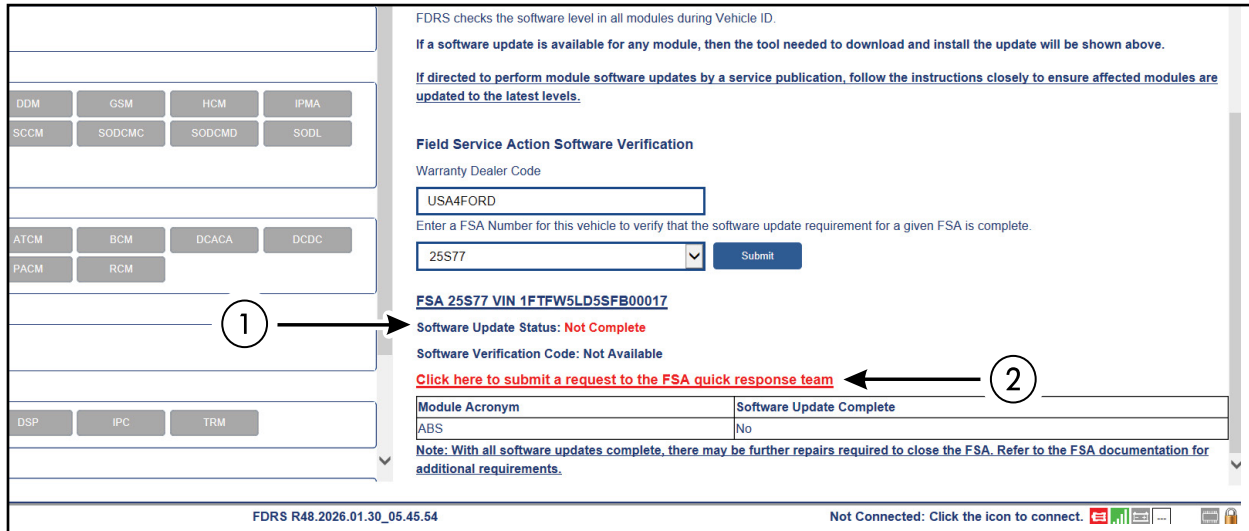

FIGURE 4
See Figure 4.
27. Use the "Click Here to submit a request to the FSA quick response team" link (2) shown in Figure 4. Follow the on-screen prompts to enter the following information: